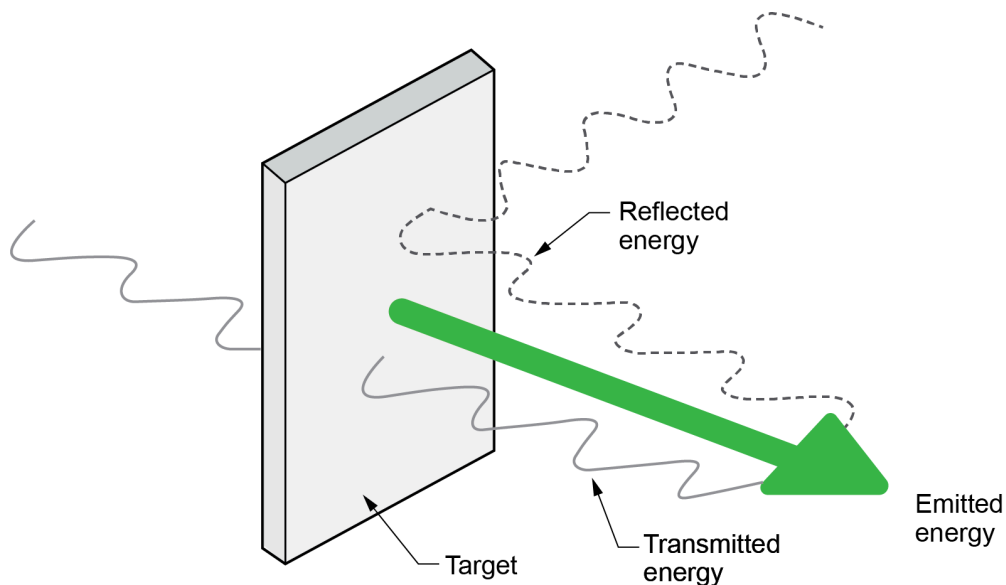

Figure 13 Emitted energy. (Skilled Trades, 2021; adapted from Fluke, 2010). Used with permission.
A **pyrometer**, by definition, refers to any remote-sensing thermometer. The modern pyrometer is a device that can determine the temperature of a surface from a distance, with no need for contact with the object. A pyrometer determines the temperature of a surface by the amount of thermal radiation it emits, which increases with temperature (Figure 13). The most common hand-held type is the **infrared (IR) thermometer**, which detects the invisible thermal infrared radiation the surface emits and translates the signal into a temperature reading.
- **Figure 13** was originally adapted for Skilled Trades BC (2021) by Trades Training BC from Fluke (2010). It is used under the Fair Dealing guidelines for educational purposes.